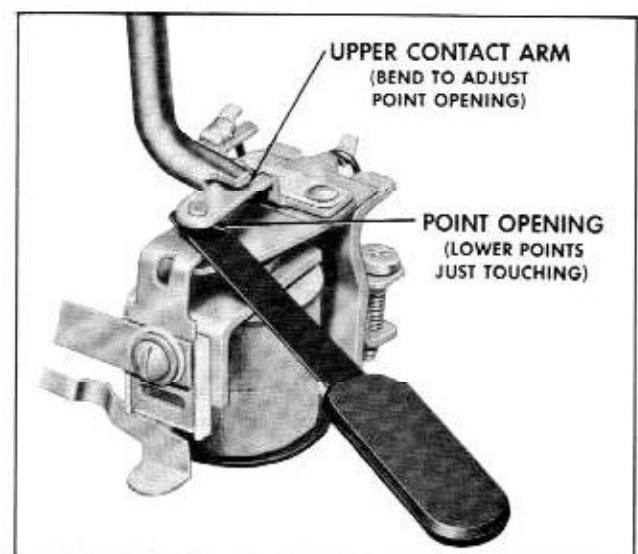

Fig. 13-41 Adjusting Voltage Regulator Point Opening (40 Amp.)
2. Adjust by bending the upper contact arm on the armature assembly. (Fig. 13-41)